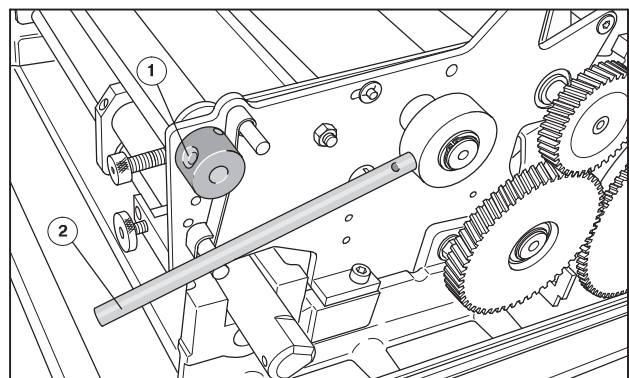

Fig. 22 Engaging/disengaging the ink vibrator
1. Insert the operator tool through the slot in the inking unit guard on O.S. into the borehole of the shaft (Fig. 22/1).